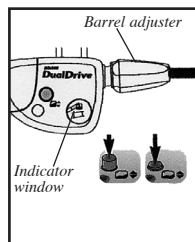

Figure 25- Clickbox (on rear hub)
2. Align the indicator on the Clickbox window by rotating the barrel adjuster (Figure 25).